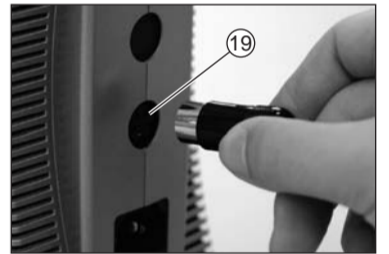

Fig.5
Insert Foot Control⑮ plug in Foot Control Connector⑲ at the back of the control unit. (Fig. 5)